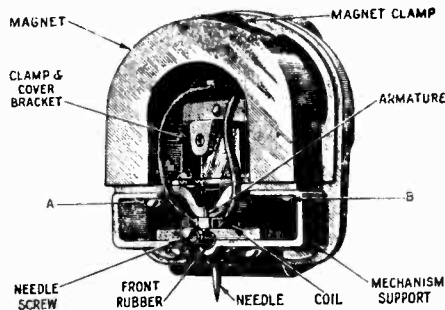

Figure 10—Pickup Nomenclature
(d) Remove screws A and B, Figure 10, and then remove the mechanism assembly from the pole pieces.
- (h) After remagnetizing, it is necessary to correctly center the armature. This may be done quite accurately by feeling its play after the needle is inserted. A little practice will quickly show which way an adjustment is necessary to have the armature centered properly. The adjustment is made by loosening screws A and B (Figure 10), and sliding the mechanism slightly in relation to the pole pieces.